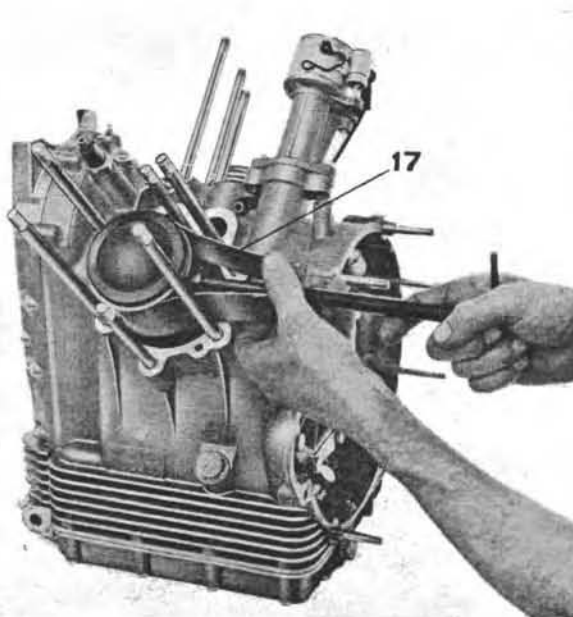

Fig. 14
- piston pin, by means of puller No. 26907800 (see 17 on Fig. 14), after removal of circlips.